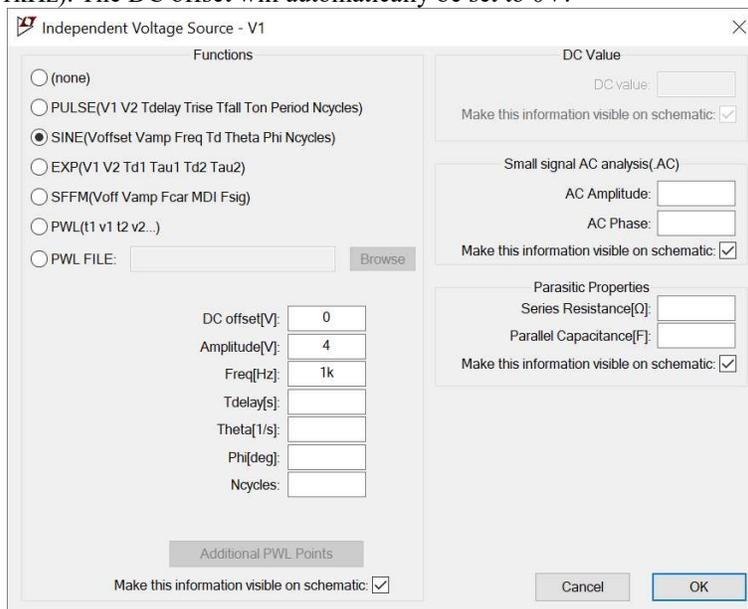

Figure A-4. Sinusoidal Voltage Source Options
- Right click on the voltage source. Rather than setting a DC value for the source, click the Advanced Button. A screen similar that shown in Figure A-4 will open.